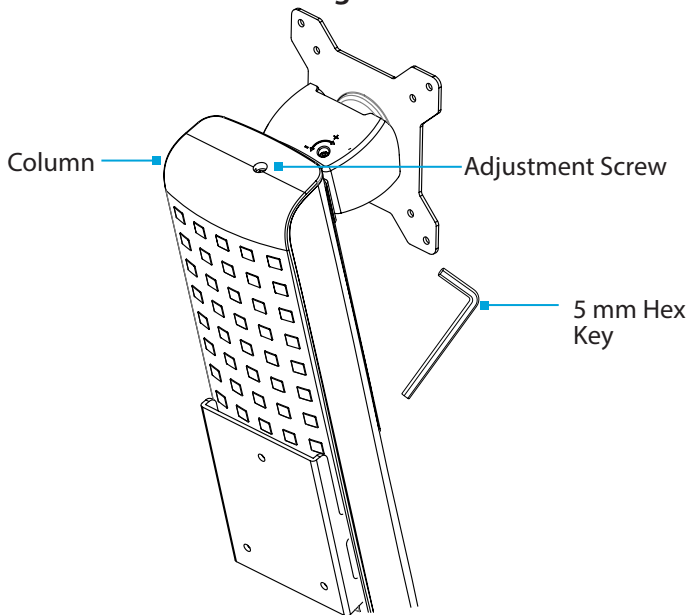

Figure 27
- If the **Monitor** doesn't remain in the set position, or it's difficult to raise or lower) use the **5 mm Hex Key** to turn the **Screw**, located in the top of the **Column**, to adjust the tension of the **One-Touch Height Adjustment Spring**. (Figure 27)